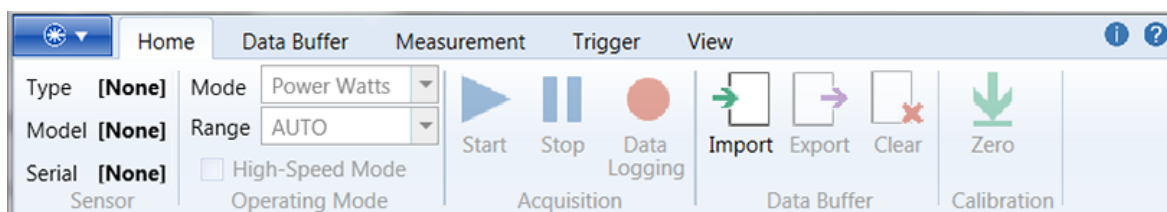

Figure 8-3. Home Tab
3. [Home tab] To take a basic power measurement, make sure that the check box for **High-Speed Mode** is *not* checked in the Home tab, as shown in Figure 8-3: